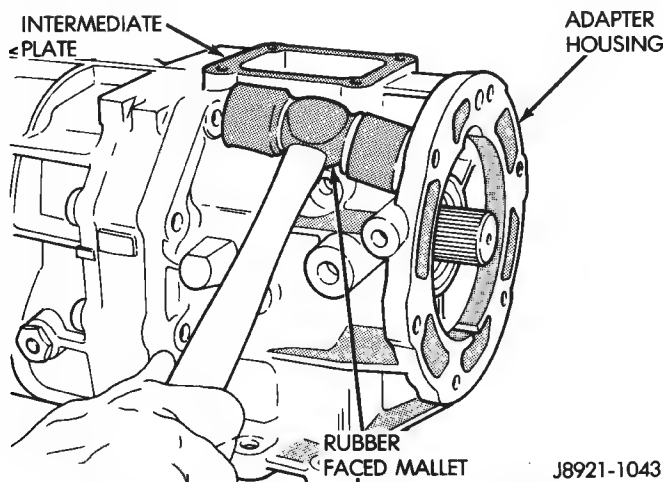

Fig. 13 Loosening Adapter Housing
(14) Loosen adapter/extension housing with rubber mallet (Fig. 13).